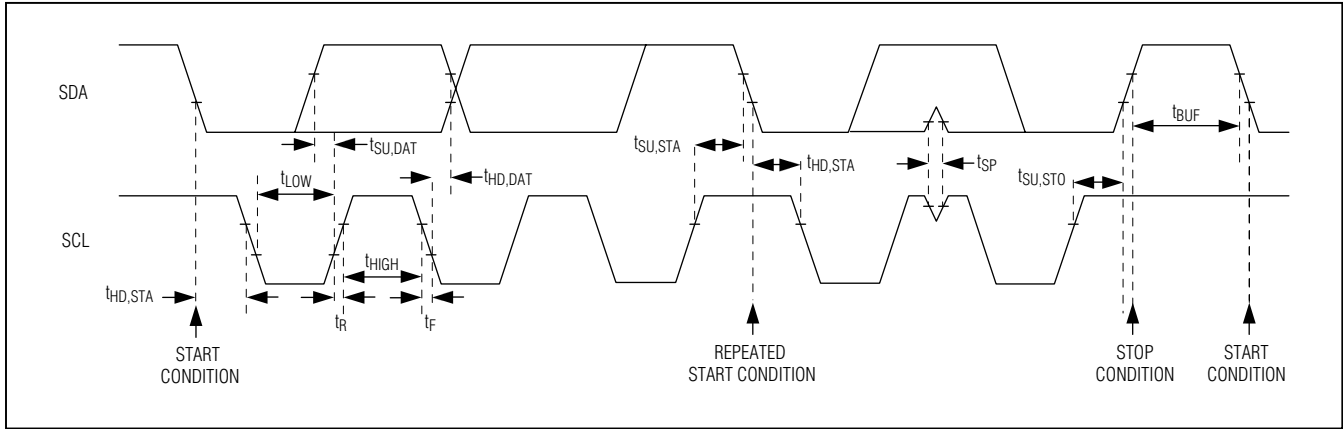

Figure 7. I2C Interface Timing Diagram
The IC features an I2C/SMBus™-compatible, 2-wire serial interface consisting of a serial-data line (SDA) and a serial-clock line (SCL). SDA and SCL facilitate communication between the devices and the master at clock rates up to 1MHz. Figure 7 shows the 2-wire interface timing diagram. The master generates SCL and initiates data transfer on the bus. A master device writes data to the devices by transmitting the proper slave address followed by the register address and then the data word. Each transmit sequence is framed by a START (S) or REPEATED START (Sr) condition and a STOP (P) condition. Each word transmitted to the MAX9679 is 8 bits long and is followed by an acknowledge clock pulse. A master reading data from the devices transmits the proper slave address followed by a series of nine SCL pulses. The devices transmit data on SDA in sync with the master-generated SCL pulses. The master acknowledges receipt of each byte of data. Each read sequence is framed by a START (S) or REPEATED START (Sr) condition, a not acknowledge, and a STOP (P) condition. SDA operates as both an input and an open-drain output. A pullup resistor, typically greater than 500Ω, is required on the SDA bus. SCL operates as only an input. A pullup resistor, typically greater than 500Ω, is required on SCL if there are multiple masters on the bus, or if the master in a single-master system has an open-drain SCL output. Series resistors in line with SDA and SCL are optional. Series resistors protect the digital inputs of the devices from high-voltage spikes on the bus lines, and minimize crosstalk and undershoot of the bus signals.